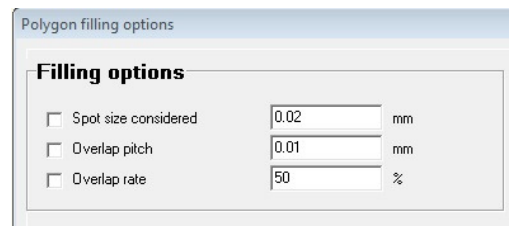

Fig18 : Filling options
- Enter the spot size selected in the Dilase equipment in the textbox “**Spot size considered**” and then valid with "Enter" key (Fig 18). Enter “**50%**” in the textbox “**Overlap rate**” and then valid with “Enter” key (Fig18).